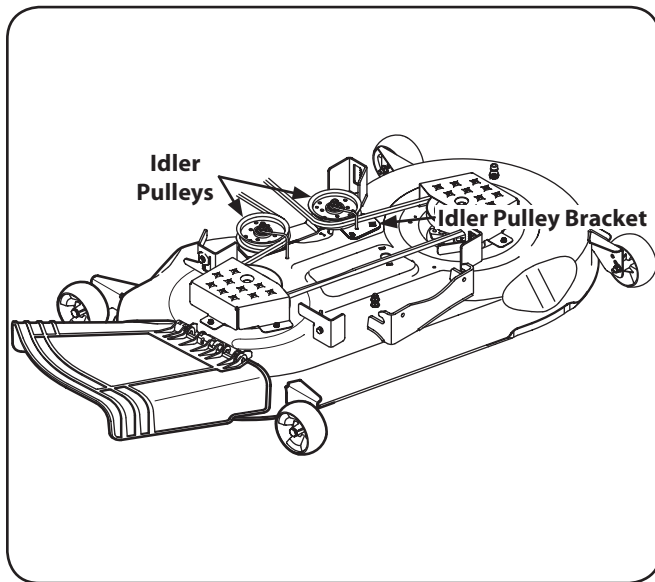

Figure 7-8
- Route the belt as shown in Fig. 7-8. After routing the belt around the PTO pulley, use a ½" drive in the idler pulley bracket and turn towards the front of the tractor to finish routing the belt around the idler pulley.
- Install the new belt around the spindle pulleys as shown in Fig. 7-8 and reinstall the belt covers.